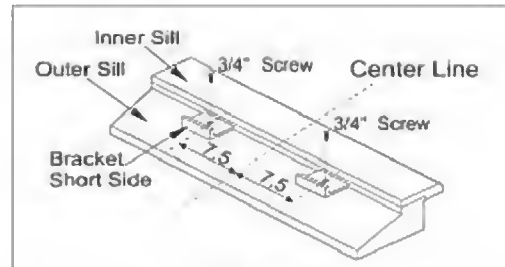

Fig. 5
5. Install the L brackets on the outer sill with the short side of the bracket against the back of the inner sill. Install one *L bracket* 7.5" to each side of center line. See Fig. 5.